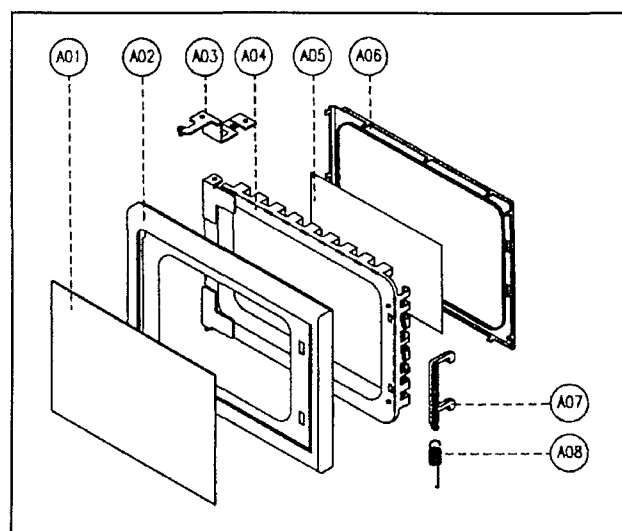

Figure 15
3. To remove door parts. (Figure 15)